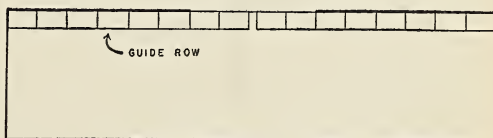

Figure 25.—A guide row should always be placed in a car to help determine the most desirable loading method and procedure.
d. Loading the refrigerator car.—The first consideration in loading a car is to make sure that all cases are stowed tightly. Place a row of cases lengthwise against one side of the car as close together as possible, starting from each end and building toward the center. This will serve as a guide row, as does the row of cases shown in figure 25.